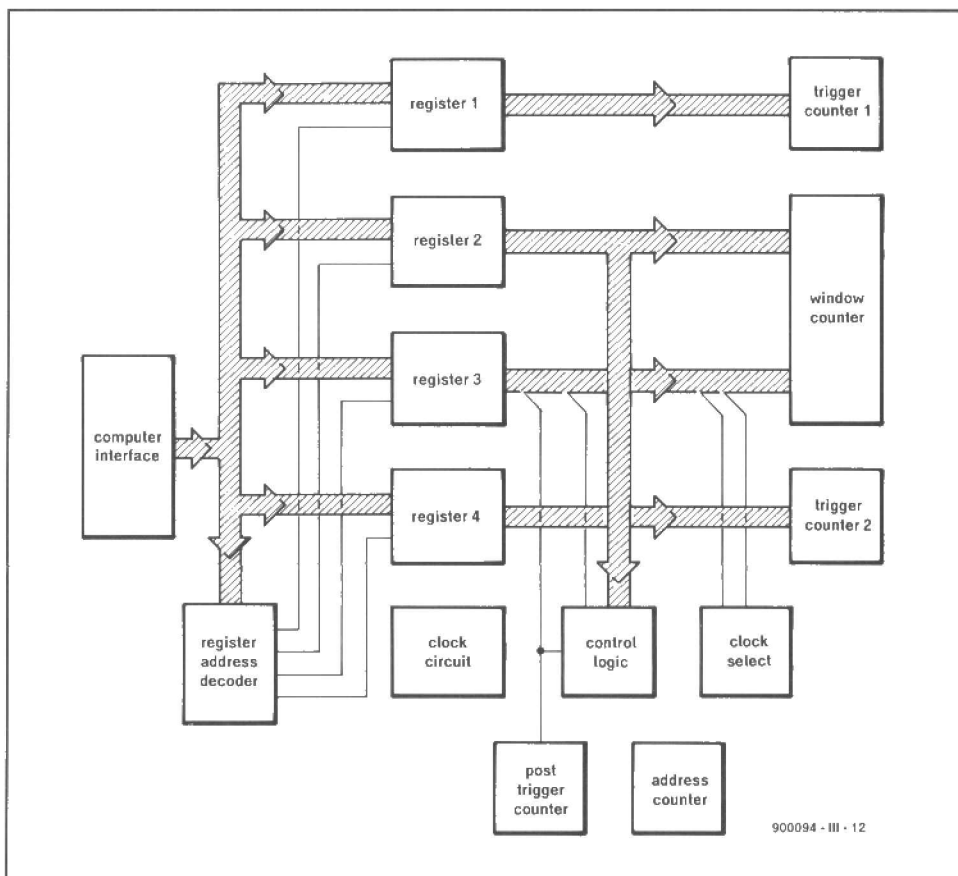

Fig. 12. Block diagram showing the connections between the control card and the computer.
**A**LTHOUGH the operating instructions for the logic analyser come from the computer, the commands are processed entirely by the control board. How the analyser is controlled has already been discussed in Part 1 with reference to Fig. 2. What has not yet been discussed is how the controller is driven by the computer and this will be done now with reference to Fig. 12.